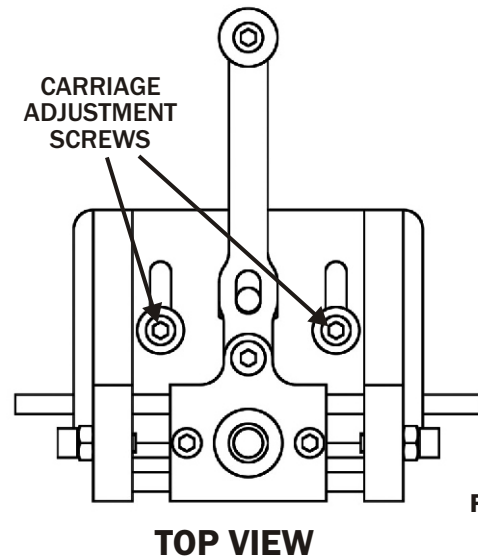
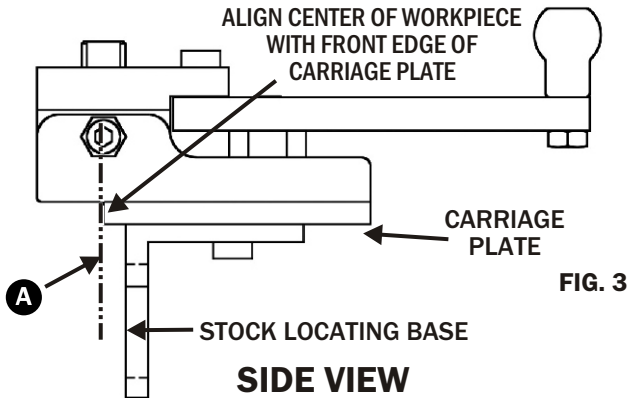
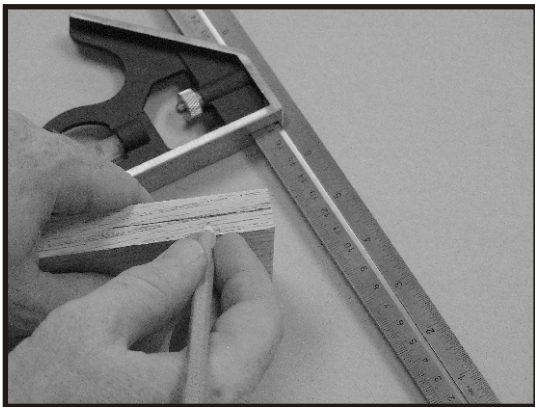

FIG. 2
FIG. 3
FIG. 4
1. Adjust the carriage plate by loosening the two 1/4-20 socket head cap screws (Fig. 2) using the 3/16" hex wrench provided. Then slide the plate to offset the carriage from the stock locating base. Keep in mind that the dotted line (Letter "A", Fig. 3) represents the front edge of the carriage plate, which is also the centerline of the drill bit.
2. You can scribe a line along the center of the workpiece to locate the position of the carriage plate (Fig. 4). Or you can set the offset of the carriage plate (Letter "A" Fig. 3) by measuring half the thickness of the workpiece. For example, if you are centering a mortise in 3/4" stock, set the carriage plate to offset the stock locating base 3/8 of an inch.